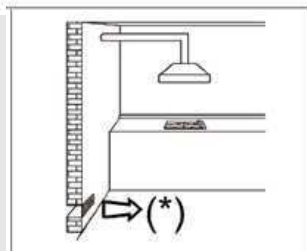

FIG. 4
- Gas cooking appliance must discharge their flue gases through hoods connected directly to flues or the outdoors (FIG. 4).